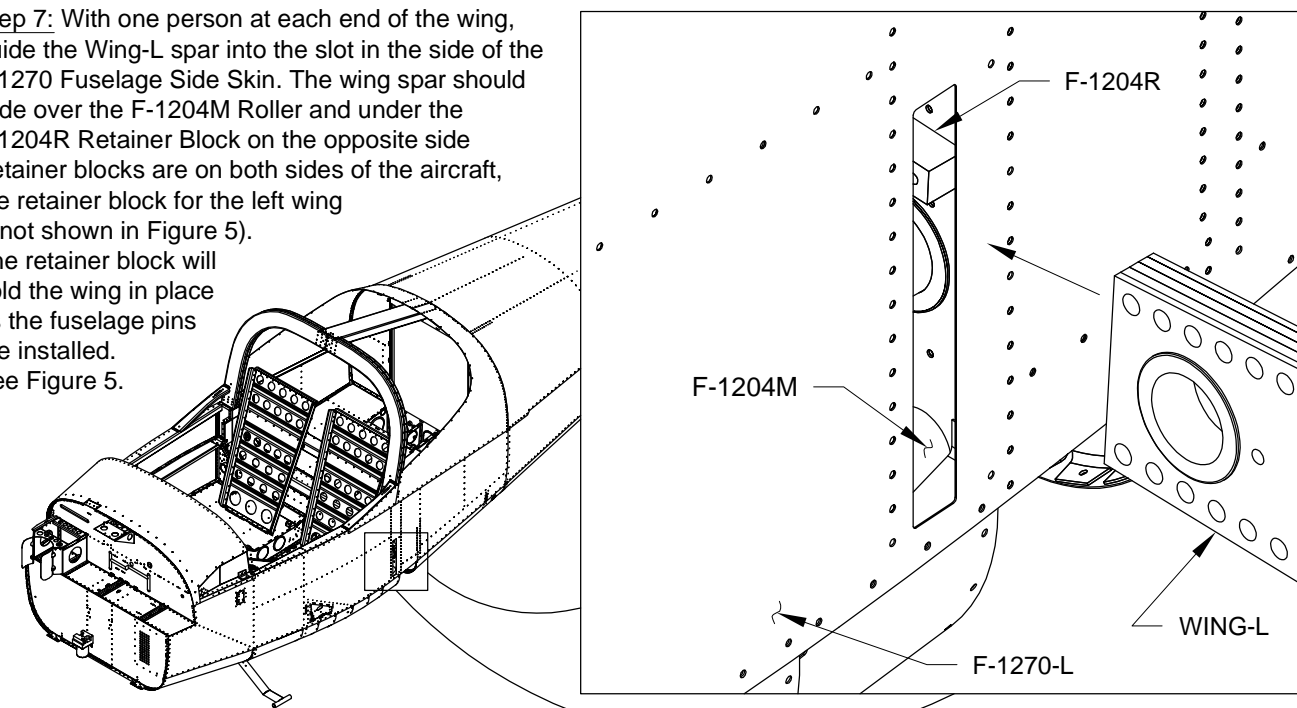

FIGURE 5: WING SPAR RECEPTACLE
Step 7: With one person at each end of the wing, guide the Wing-L spar into the slot in the side of the F-1270 Fuselage Side Skin. The wing spar should slide over the F-1204M Roller and under the F-1204R Retainer Block on the opposite side (retainer blocks are on both sides of the aircraft, the retainer block for the left wing is not shown in Figure 5). The retainer block will hold the wing in place as the fuselage pins are installed. See Figure 5.
Step 3: With one person on each end of the right wing, slide the right wing spar over the F-1204M Roller and under the F-1204R Retainer Block on the opposite side. See Page 30-02 Figure 5. Slide the WD-1217 Fuselage Pins through the bushings in both wing spars and latch to the F-1248B Fuselage Pin Latch with the retaining screws facing outboard. The retaining screws should be positioned outboard to prevent them from being depressed accidentally. See Figure 1.